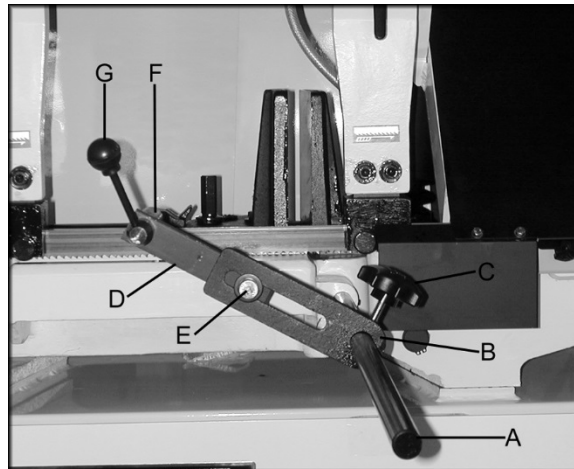

Figure 2
1. Insert stop rod (A, Figure 2) into the base below the vise. Place stop bracket (B) onto stop rod and tighten lock knob (C). Attach the connecting plate (D) to stop bracket with hex cap bolt and washer (E) and tighten. Attach the work stop (F) to the connecting plate with lock handle (G), and tighten.